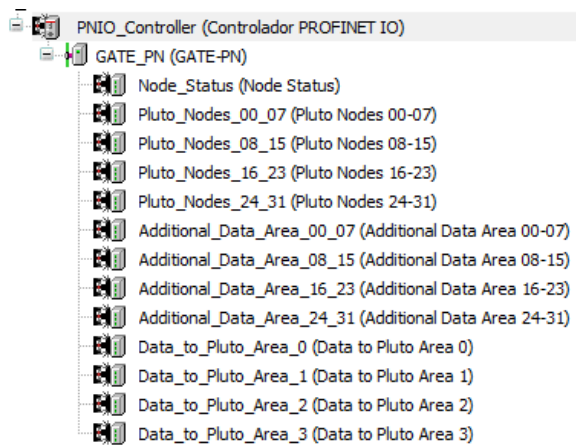

Figure 17.- Configuration GATE_PN objects
- Then, all the modules/objects must be added by doing right click and add aobject. These modules are the registers that let the Pluto send or receive information. When all the modules are added, the object GATE_PN must look like the one in the figure 17.